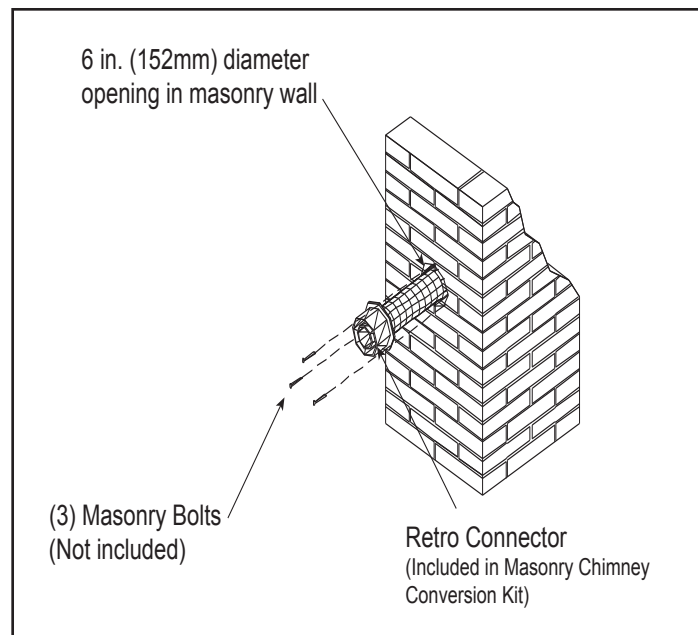

Figure 4.29
9. Attach the flex to the retro connector. Use three sheet metal screws to attach the flex liner to the connector. Mount the retro connector to the masonry wall using masonry bolts. See Figure 4.29. Redrill larger holes on connector as needed. Be careful to ensure that the connector is centered in the opening and the mounting holes line up with the masonry wall.